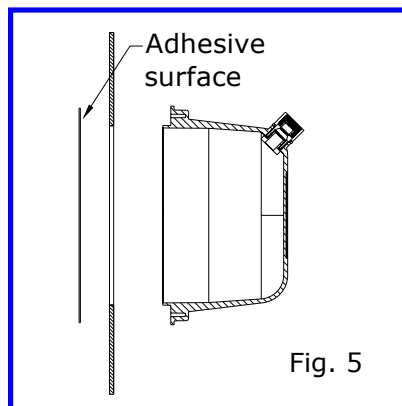

Fig. 5
- Stick a second adhesive seal ring at the inner side of the panel (Fig. 5)